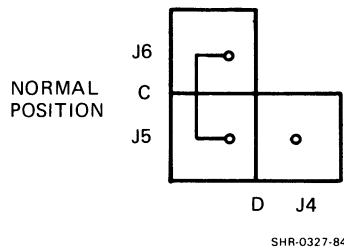

Figure 2-7 Test Jumper
2.2.6 Test Jumper C, D (Figure 2-7)